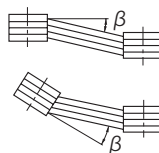

Figure 5-4
(3) When Using a V Belt
- The parallelism, eccentricity β of the two pulleys should be within $20'$. (See Figure 5-4)